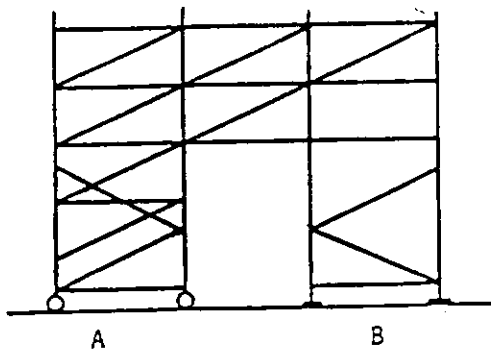

Fig.1
- a. Erect tower (A) with castors. Erect support tower (B) with base plates, with legs extended to give the same height as (A). Connect (A) - see Fig. 1.